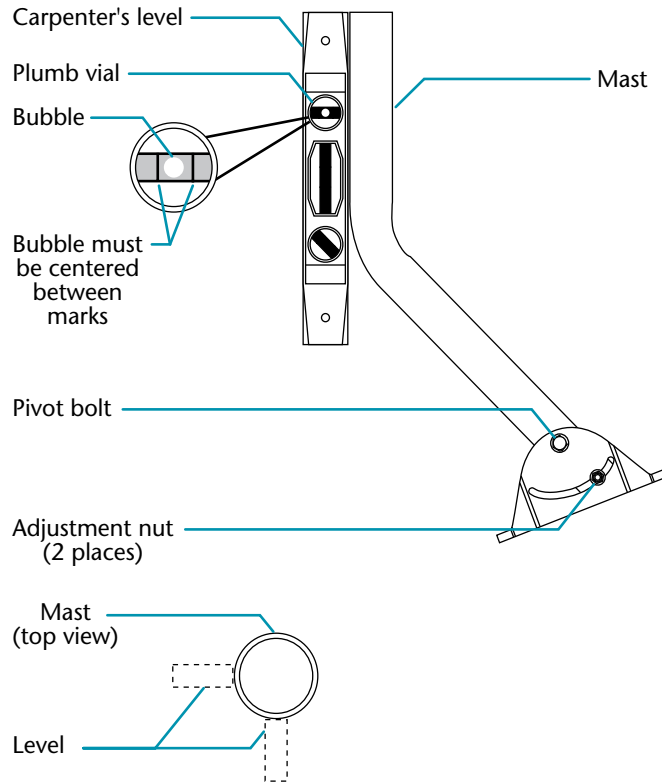

Figure 4-42. Verifying the mast is plumb
3. Using a carpenter's level, plumb the antenna mast in at least two different locations on the side of the mast, as shown in figure 4-42. These two measurements should be at right angles to each other.
If the mast is plumb (aligned vertically with the bubble level), go to step 5. Otherwise, loosen the adjustment nuts (see figure 4-42).
6. Install the mast onto the mounting surface using a 2 1/2-inch X 3/8-inch lag screw in the top right hole (see figure 4-42). Tighten the screw enough to secure the base plate, but leave it loose enough to enable you to adjust the base plate.
surface of the roof into the reinforcing boards (see figure 4-42).